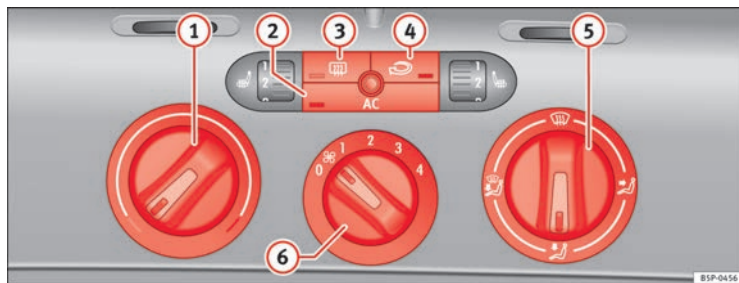

Fig. 127 On the dash panel: Climatic controls
- Use the knobs ⇒ fig. 127 ① and ⑤ and control ⑥ to set the temperature, air distribution and blower speed.
- To switch a function on or off, press the appropriate button ②, ③ or ④. When the function is activated, the display window in the lower corner of the button is lit.
- ① Temperature selector ⇒ page 157
- ② AC button – Heating, ventilation and air-conditioning system on/off ⇒ page 157
- ③ button – Heated rear window The heating will be switched off automatically approximately 20 minutes after switching on. It can also be switched off beforehand by pushing the button.
- ④ Button – Air recirculation mode ⇒ page 158
- ⑤ Air distribution control ⇒ page 157
- ⑥ Blower switch. There are four speed settings for the air flow. The air flow should always be set at the lowest speed when driving slowly.
- Switch on the air conditioner using the button → fig. 127 .